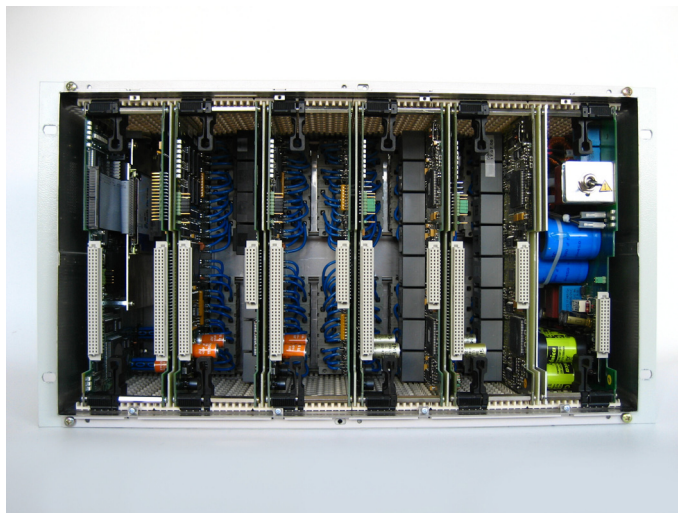

Figure 2-5 Internal view of device without bus board
- ❑ Remove the bus board from the modules and set it aside (see Figure 2-5).